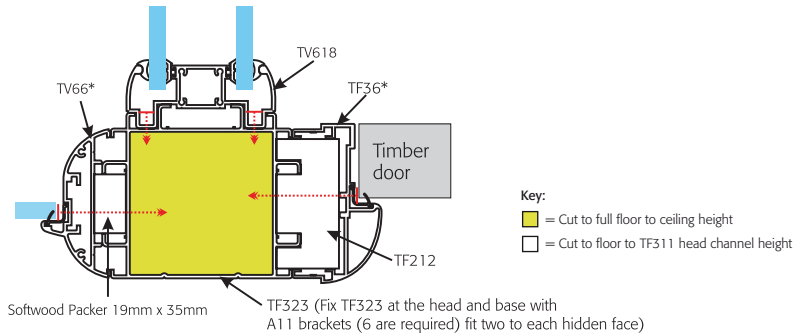

Fig. 11
#### Method of build fig.11
- 6 Fix TV66\*, TF6611, TF323, TV618, TF212 & TF36\* together to form the section as shown in Fig. 11
- 8 When in position as in Fig.11, base sections TV624 & TV625 (Two of TV625 are required) can be butted up to the double glazing post TV618 to create the desired run length. See Fig. 12 for further information on base sections.